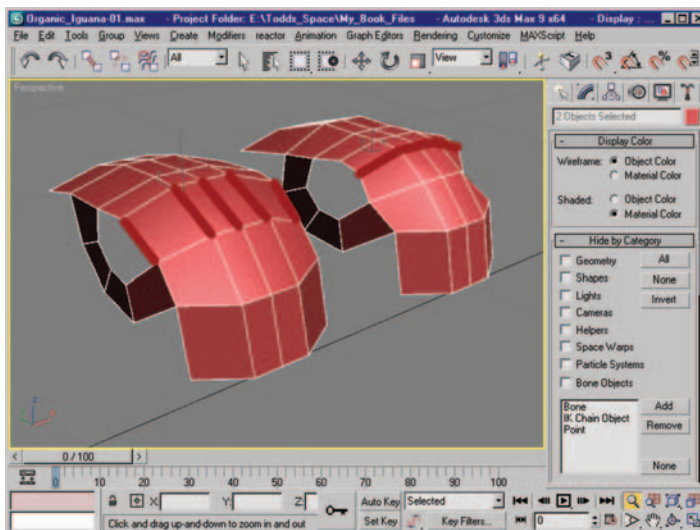

Figure 9.9 Edge selection and resulting new edges after using Connect.
9. Repeat the process in step 8 to create an additional row of edges (Figure 9.9). Adjust the position of the new edges to match the screen capture.